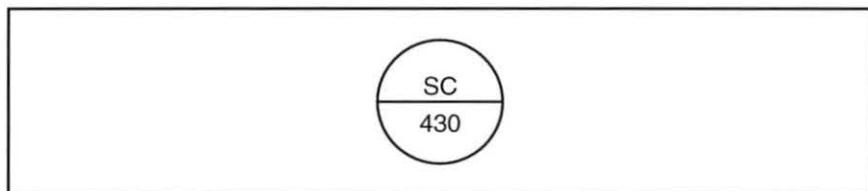

Figure 66. Instrument Tag
6. Determine the measured variable and function of the device using the instrument tag in figure 66.